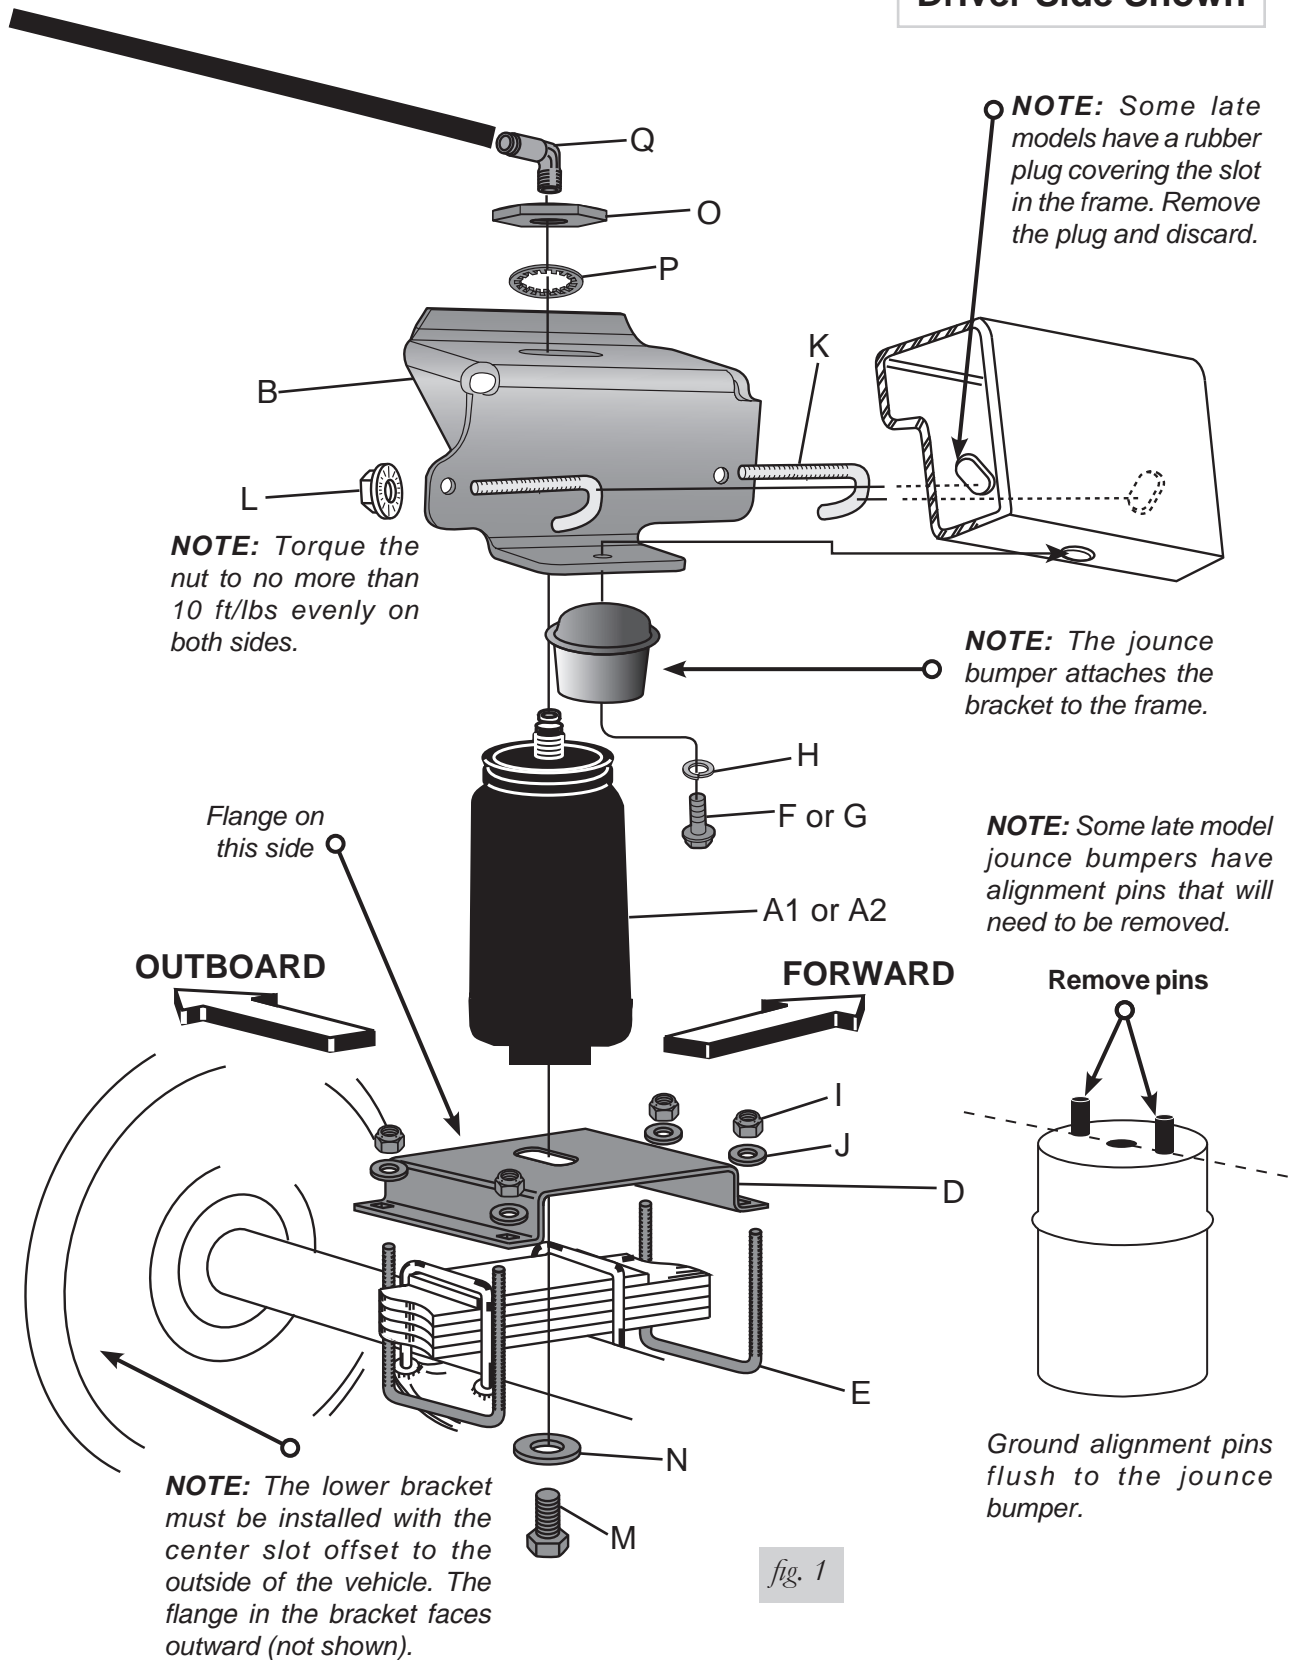

fig. 1
1. Remove the stock jounce bumper from under the frame (fig. 1).
Some late model jounce bumpers have alignment pins that will need to be removed (fig. 1). Grind pins flush to the jounce bumper once removed.
7. Attach the air spring (A1 or A2) to the lower bracket (D) with the 1/2" flat washer (N) and lower mounting bolt (M). Leave loose for later adjustment.
8. Set the lower bracket on the leaf spring above the axle and attach using the supplied U-bolts (E), 3/8" flat washers (J), and 3/8" nyloc nuts (I) (fig. 1).
10. Install the 3/4" nylon nut (O) and lock washer (P) on to the upper threaded post of the air spring. Leave loose for final adjustment.